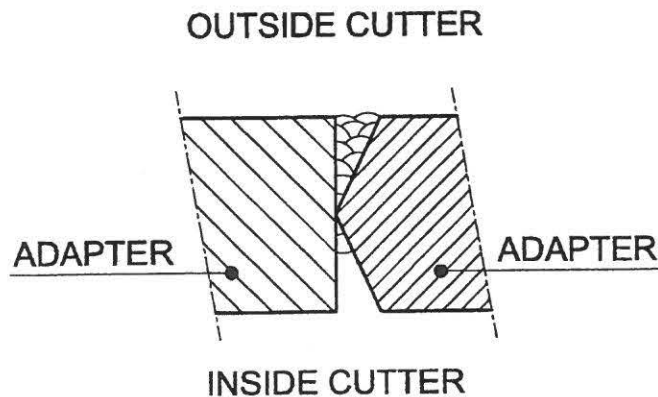

Figure 9.7
4. Complete the connection welds between the wings at the inner side of the cutter blade is shown in figure 9.7.